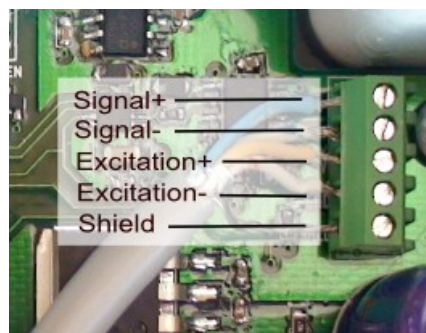

Figure 3: Sensor Wiring
7. If you are using a shielded cable, attach the shield wire to the SHLD terminal. The shield wire is the one without any insulation (see Figure 3).